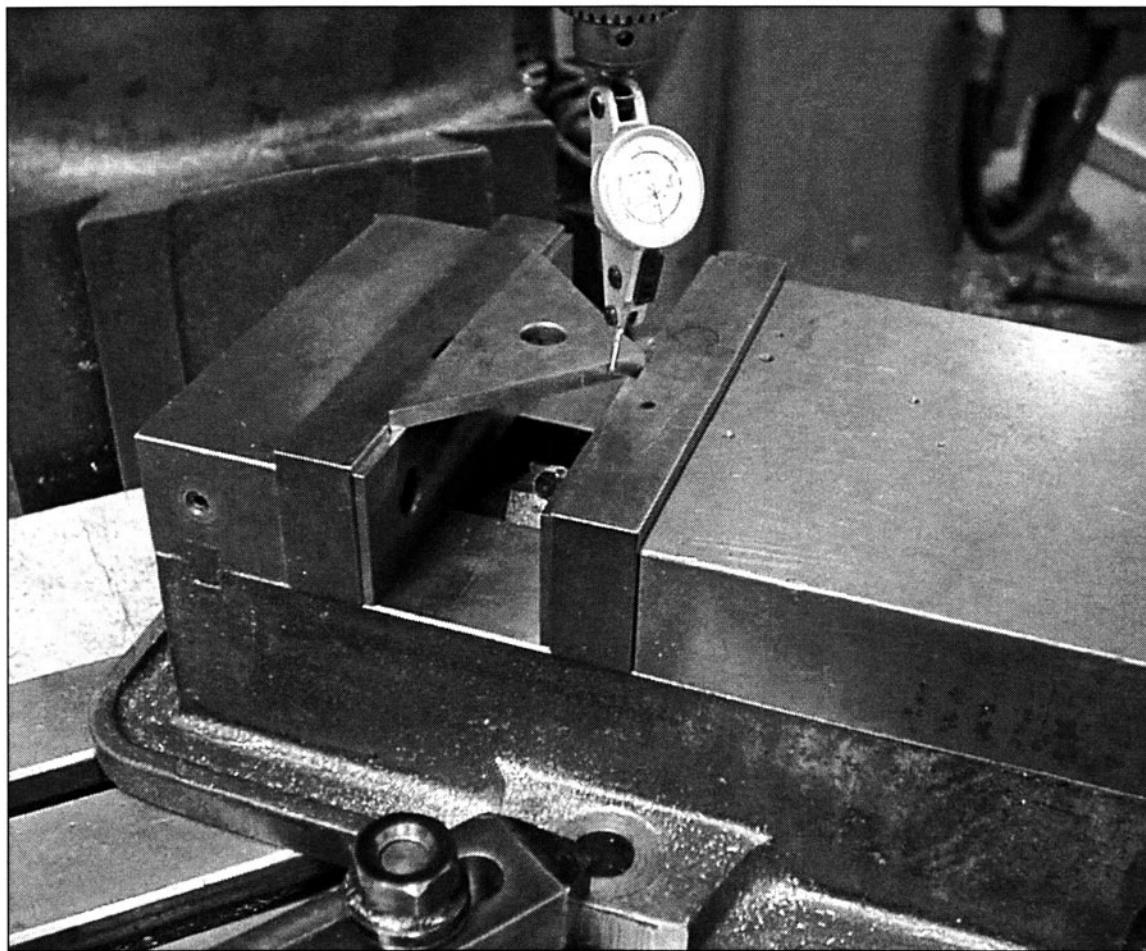

FIGURE 3-32 Preexisting angles can be used to set vise angles.
46. *Indicate a milling machine vise at an angle using pre-existing angles. (See Fig. 3-32)*